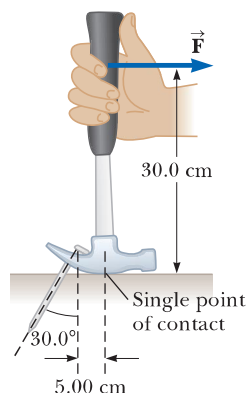

Figure P12.17
17. Figure P12.17 shows a claw hammer being used to pull a nail out of a horizontal board. The mass of the hammer is 1.00 kg. A force of 150 N is exerted horizontally as shown, and the nail does not yet move relative to the board. Find (a) the force exerted by the hammer claws on the nail and (b) the force exerted by the surface on the point of contact with the hammer head. Assume the force the hammer exerts on the nail is parallel to the nail.